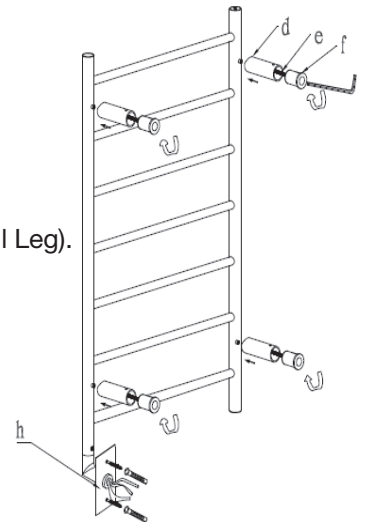

Fig. 2
Step 2: Installing metal wall legs (Fig. 2)